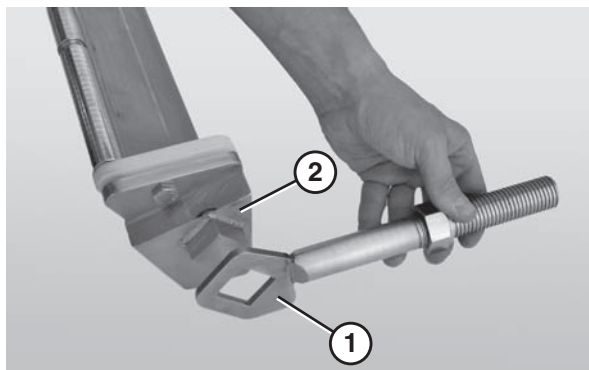

Figure 81
3. Slide the nose bar shafts (**Figure 81, item 1**) off of the nose bar weldment (**Figure 81, item 2**).